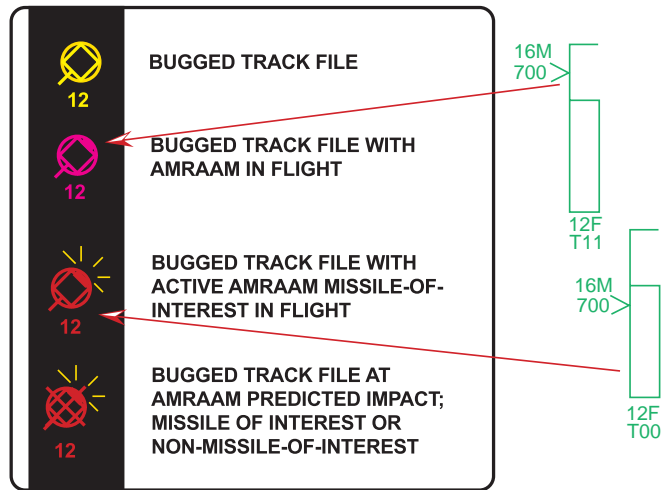

Figure 3-35 MFD Target Symbology With AMRAAM Inflight
M2 displays the MFD target tail symbol when a slave launched AMRAAM has been launched against the target. The tail symbol on the target flashes when the missile of interest goes active. When any missile launched against a target is predicted to have impacted the target, the missile impact indication (X) is displayed over the target. The tail symbol only flashes if the missile went active before impact (Figure 3-35). The missile impact indication is displayed for 13 seconds (8 steady and 5 flashing).